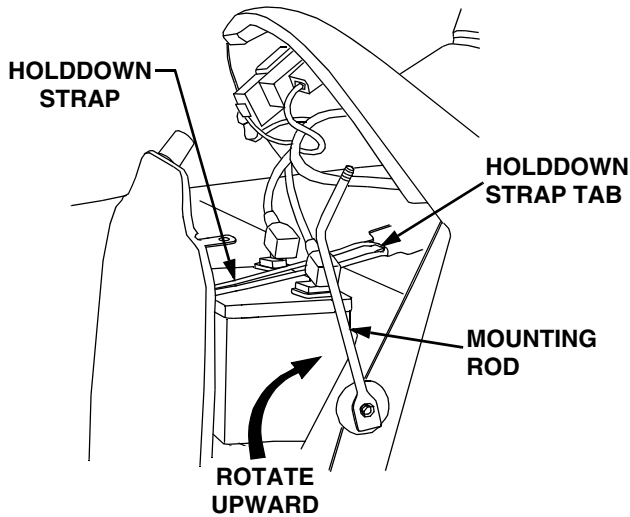

Figure 27
3. Rotate the mounting rod fully upward toward the dash panel to provide clearance for battery removal (Refer to Figure 27).